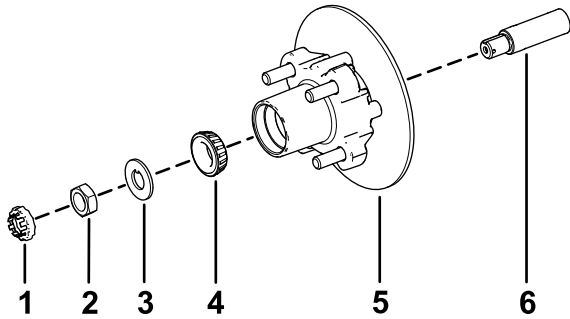

Figure 42
1. Apply a light coat of the specified grease to the spindle (Figure 42).
2. Assemble the hub and rotor onto the spindle with the rotor inboard (Figure 42).
3. Assemble the outboard bearing onto the spindle and seat the bearing to the outboard race (Figure 42).
4. Assemble the tab washer onto the spindle (Figure 42).
5. Thread the spindle nut onto the spindle and tighten the nut to 15 N·m (11 ft-lb), while rotating the hub to seat the bearing (Figure 42).
2. Align the brake pads to either side of the rotor (Figure 38) and the holes in the caliper bracket with the holes in the brake mount of the spindle frame (Figure 42).